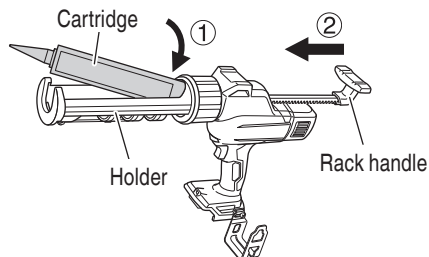

Fig. 20
- (4) Load the cartridge into the holder. (Fig. 20)